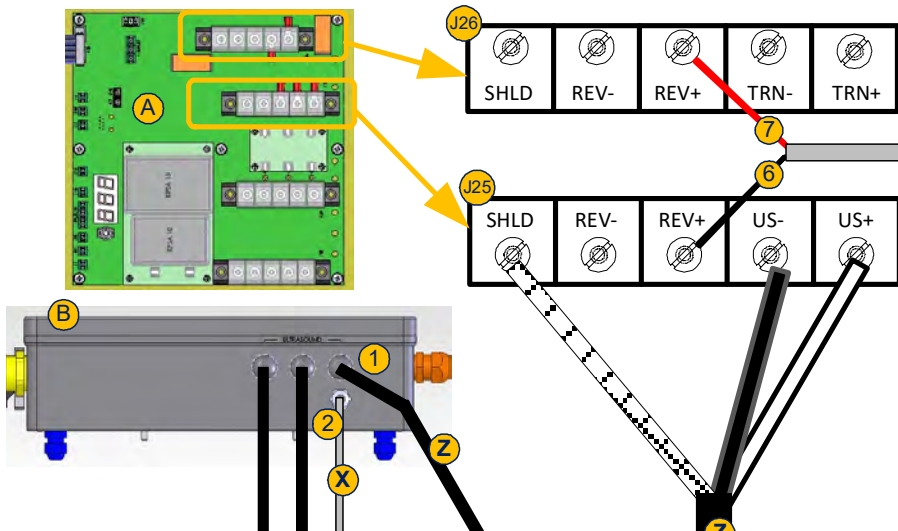
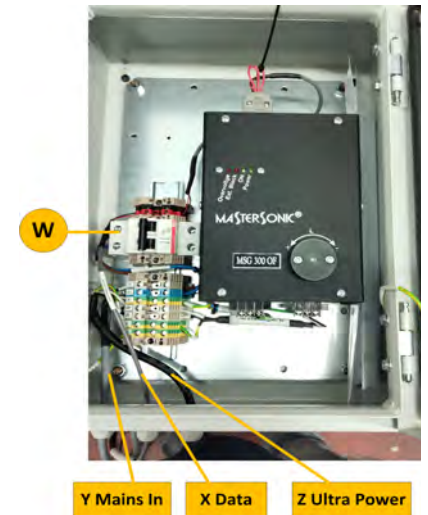

Figure 5-22: Ultrasonic Cleaner Cable Connections in the Connection Box
Figure 5-23: Ultrasonic Cleaner Module - Inside View
- Step 1.** The Ultrasonic Cleaner cable (marked **(Z)** in Figure 5-22 above) is connected in the Connection Box #1 to terminal **(J25)** from the factory. From the Connection Box, extend the Ultrasonic Cleaner cable **(Z)** to the Ultrasonic Cleaner Module and thread it through gland in Figure 5-23 .
- Step 4.** From the Ultrasonic Cleaner Module, extend the Control cable (marked **(X)** in Figure 5-22 above) to the Atlantium Unit and thread it through gland **(2)** on the Connection Box #1 **(B)**.